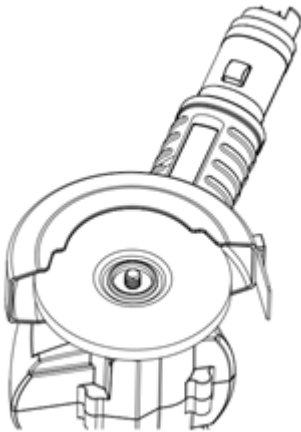

FIG.4
- Fit the brush onto the drive axle. Make sure that the brush fits accurately into the mount .(Fig.4)